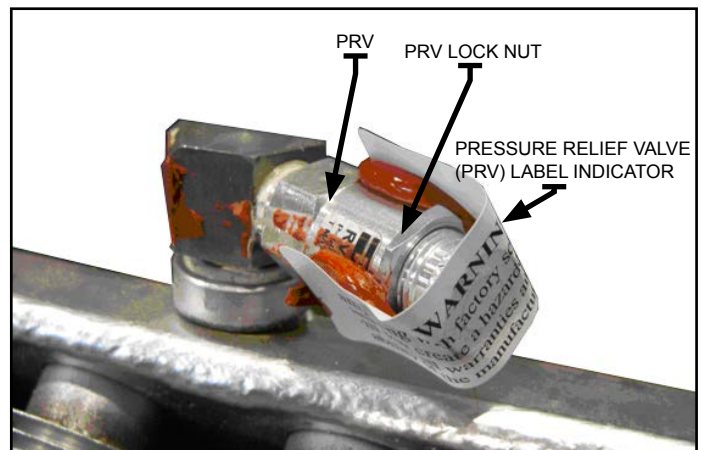

FIGURE 1
| <p>1. CLEAN</p> <ul style="list-style-type: none"> <input type="checkbox"/> Finned Tubes <input type="checkbox"/> Fan <input type="checkbox"/> Fan Guard <input type="checkbox"/> Motor <input type="checkbox"/> Louvers | <p>2. CHECK</p> <ul style="list-style-type: none"> <input type="checkbox"/> Motor for smooth, quiet operation <input type="checkbox"/> Louvers for proper angle and tightness <input type="checkbox"/> All explosion-proof covers for tightness <input type="checkbox"/> Pressure relief device for signs of leakage. See Figure 1 and refer to the ANNUAL Section (see below) item 2 for further instructions |